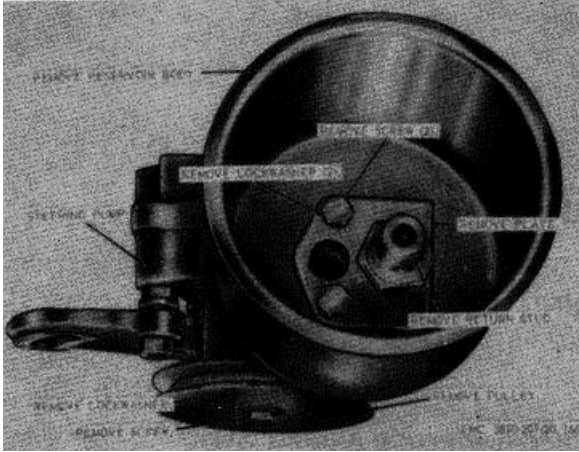

Figure 166. Steering pump pulley and reservoir, removal and installation.
- (1) Remove the steering pump drive belt (par. 254).
- (2) Remove the steering pump pulley as instructed on figure 166.
- (1) Install the pump pulley as illustrated on figure 166.
- (2) Install the drive belt (par. 254).
- (3) Adjust the drive belt (TM 5-3810-207-10).
- (1) Remove the cover and filter element from the reservoir (TM 5-3810-20710).
- (2) Drain the reservoir (TM 54810207-10).
- (3) Remove the steering pump reservoir as instructed on figure 166.
- (1) Install the steering pump reservoir as illustrated on figure 166.